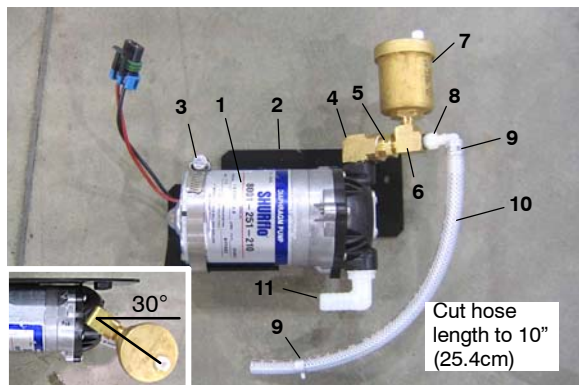
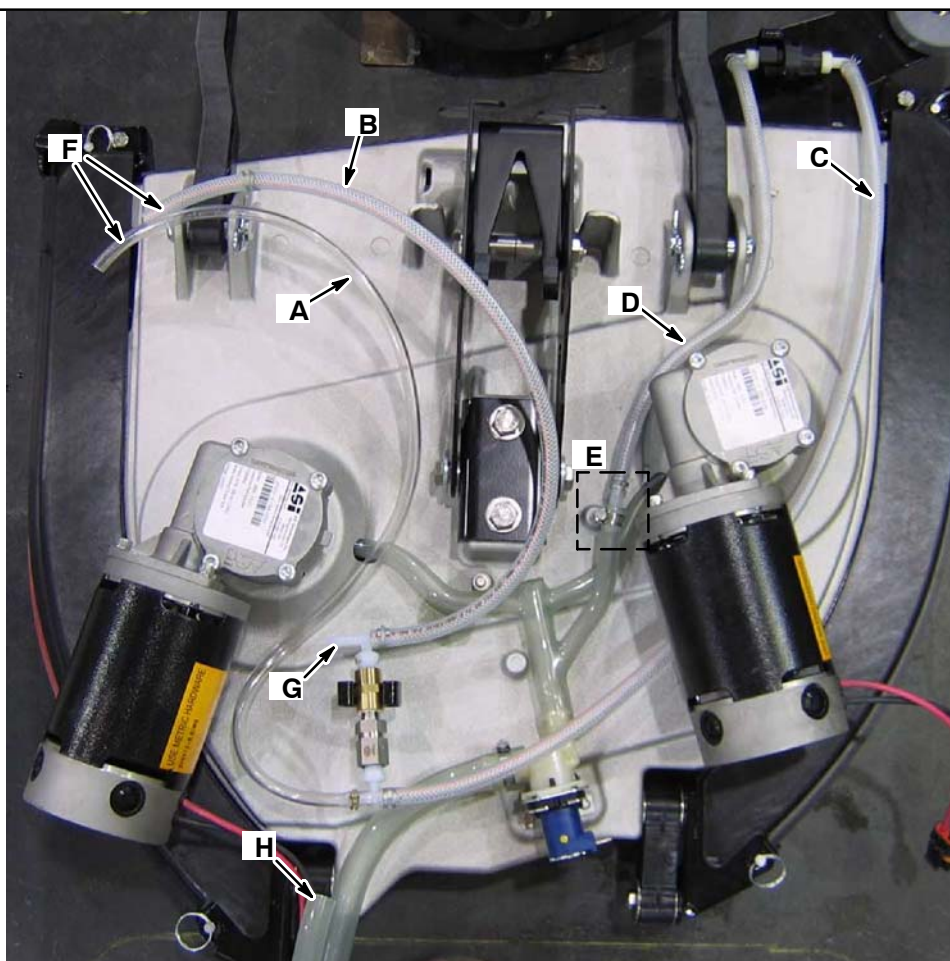
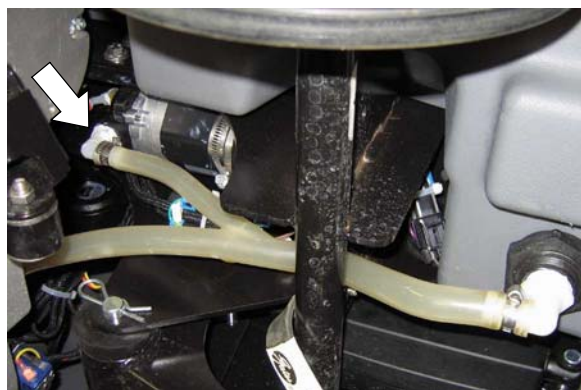

Fig. 16
Fig. 28
Fig. 29
2. Assemble the pump assembly as shown (Figure 16). Use a thread sealer tape on all fittings.
Pump Assembly Parts List (Figure 16)
10. Assemble the kit hoses on the scrubhead as shown (Figure 28).
12. Connect the *ec*-H₂O pump hose (Figure 16) to fitting (G) (Figure 28). Use clamp [p/n 603654].
13. Connect the solution tank hose (H) (Figure 28) to the *ec*-H₂O pump (Figure 29).